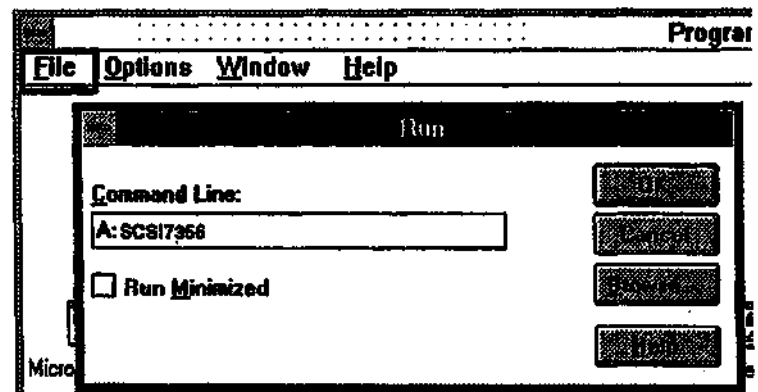

Figure 6-1. Running the Setup Program
4. (Figure 6-1): Open the Program Manager in Windows, and choose RUN from the File Menu.